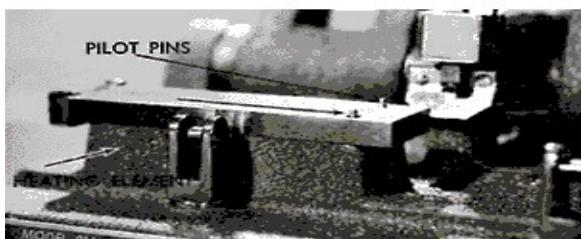

Figure 3
left - each with upper and lower sections. The ends of the blades have sharp cutting edges which trim off the film ends during the final welding stage. The lower blades have two sets of pilot pins which fit into corresponding holes in the upper blades to hold the film in place during splicing (Figures 3 & 4). These two sets of pins allow splicing with the perforations either toward or away from the operator.
- The heating element, under the immovable left lower blade. Its function is to speed cement drying (Fig. 3)